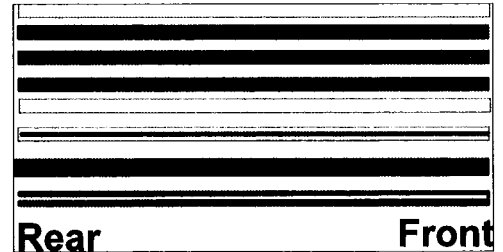

Figure 1
1. Locate the towing pigtail cable tied to the towing receiver. (Figure 1)
3. Follow wire harness forward for about one (1) foot. Pull the split loom cover off to access the wires.